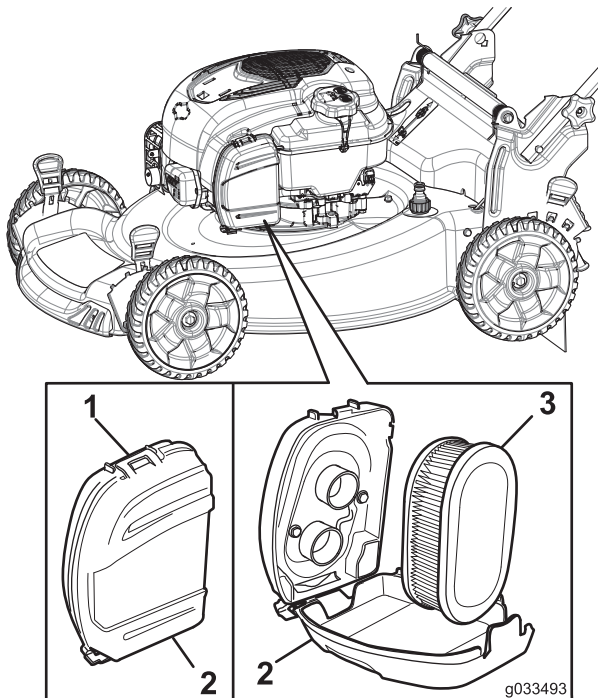

Figure 31
1. Upclip the top of the air-filter cover (Figure 31).
2. Remove the air filter (Figure 31).